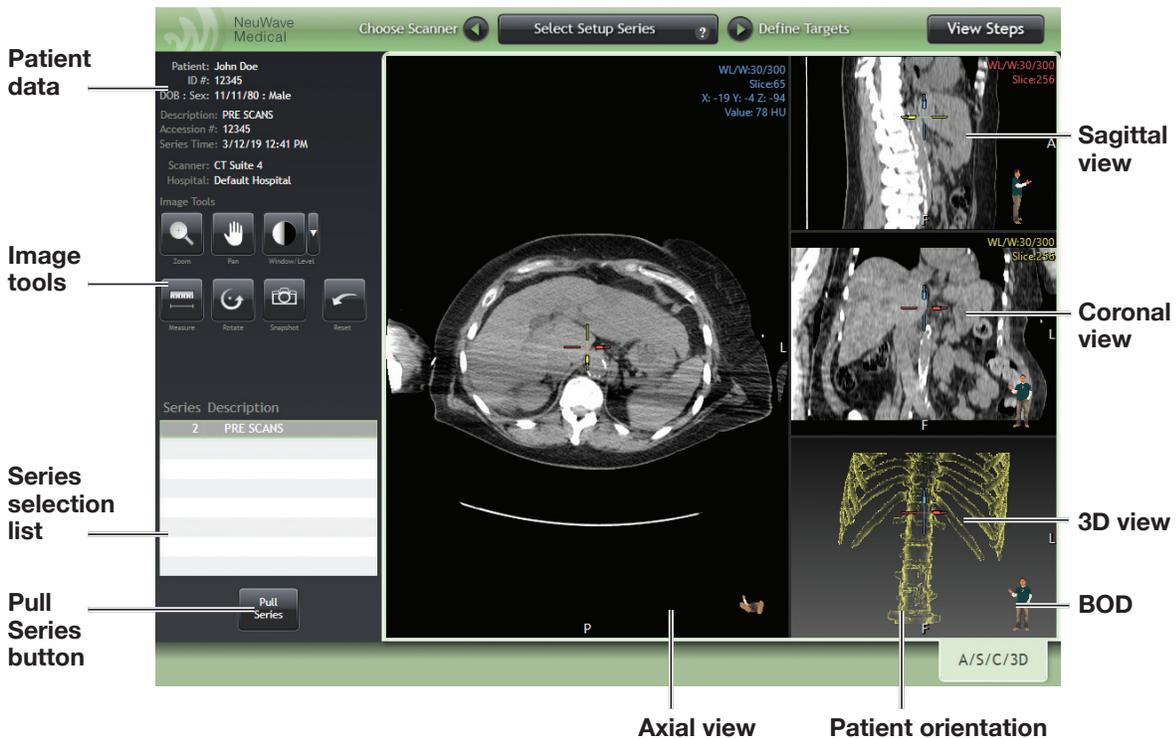

Figure 3-4: Select Setup Series screen
8. After selecting the series, click the Pull Series button beneath the list (see Figure 3-4).
Take a moment to look at the Select Setup Series screen, as shown in Figure 3-4. It contains several sets of tools and windows that help you examine the image series and locate the lesion. These tools and windows are available in many subsequent screens of the software.
The screen includes four views, as shown in Figure 3-4, and the edges of each view contain letters that indicate the orientation of the patient: